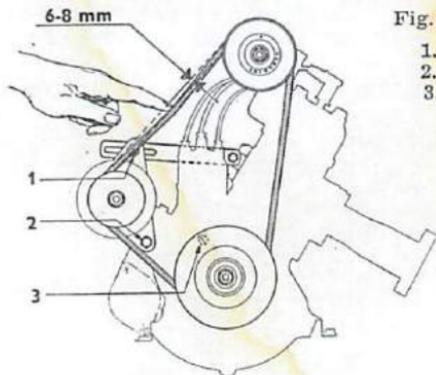

Fig. 26. Adjustment of Belt Tension
The generator is located to the right of the engine and is driven by a V-belt from the crankshaft pulley. To tighten the belt, loosen the bolts 1 and 2, fig. 26, and pull the generator outwards. The correct tension is attained when the belt can be pressed inwards about 6—8 mm ( $\frac{1}{4}$  in.) on the longest run. See fig. 26. Do not overtighten the belt, since this will cause excessive load on the generator bearings and heavy belt wear. When the tension has been correctly adjusted, tighten the bolts 1 and 2.
1. With the distributor cap removed and the breaker points adjusted, turn the crankshaft until the index on the crankshaft pulley coincides with the crankcase index underneath the distributor, as shown in fig. 26. The piston in cylinder 2 is now at its top dead centre.
points begin to open at  $10^\circ$ , or if a dial gauge is used, 0.7 mm (.028 in.) before T.D.C. If a dial gauge is not available, the distance between the pulley index and the crankcase index, fig. 26, may be measured. The distance measured on the pulley periphery corresponding to  $10^\circ$  is 12–13 mm ( $\frac{1}{2}$  in.).